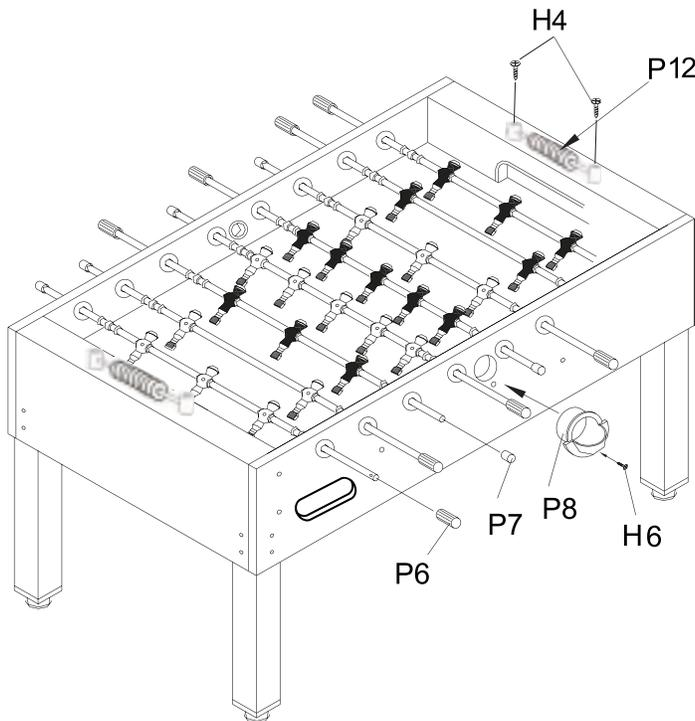

Figure 5
- Attach the ball entry cups **P8** to the side panels with screws **H7** as shown in **FIGURE 5**.
- Attach the Slide scorers **P12** to the top of the end panels with screws **H6** as shown in **FIGURE 5**.